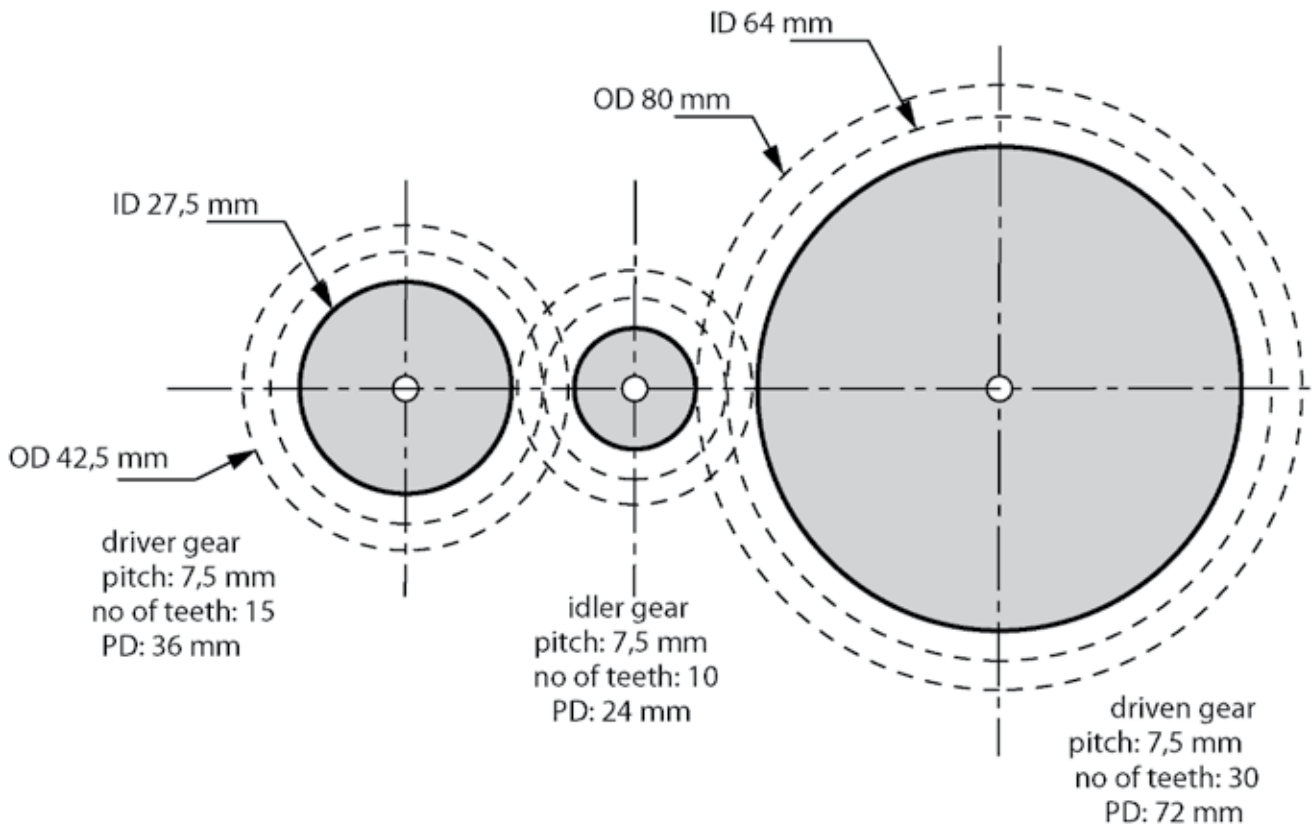

Figure 9
1. Draw the gear system in Figure 9 on the grid paper on the next page.